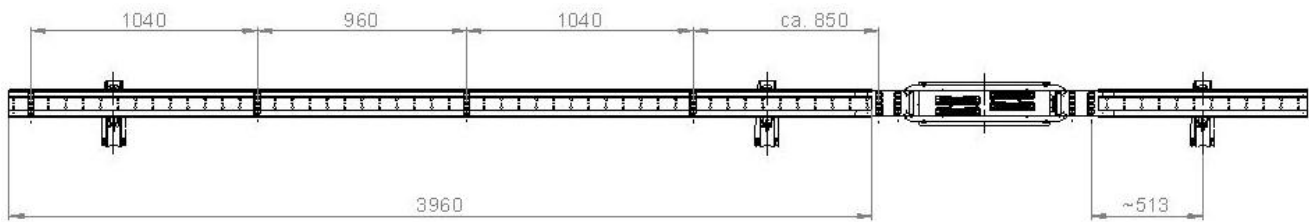
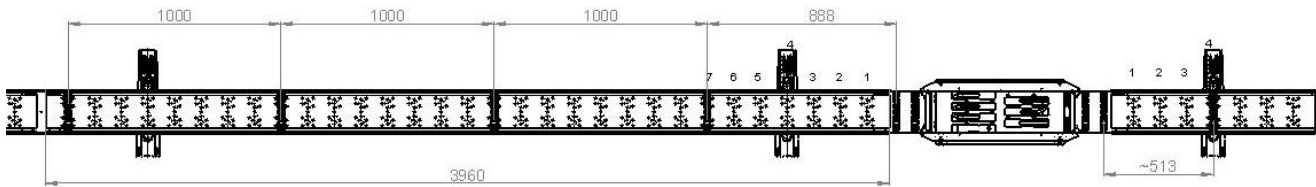

Fig. 18: Distances between hanger clamps 0812 in ProShell 128 support profile system
Fig. 19: Distances between hanger clamps 0812 in ProShell 206 support profile system
- The distances of the hanger clamps are selected as in Fig. 18 or Fig. 19